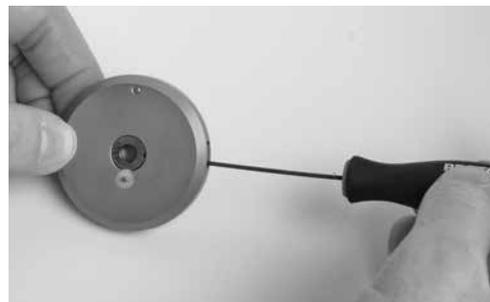

Fig. 5 Securing the Puck Set Screw
3. Use a 0.050 in. hex key to turn the set screw until the die assembly is held in place. Ensure the die has slight movement in the puck. Fig. 5.